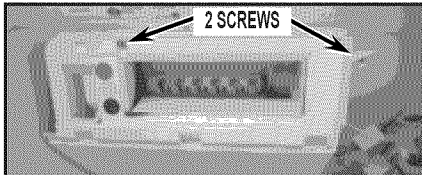

FIGURE 10
13. Locate the two 1/4" screws attaching the ice box assembly and remove using 1/4" nut driver. Slide ice box assembly forward to remove. See *Figure 10*.